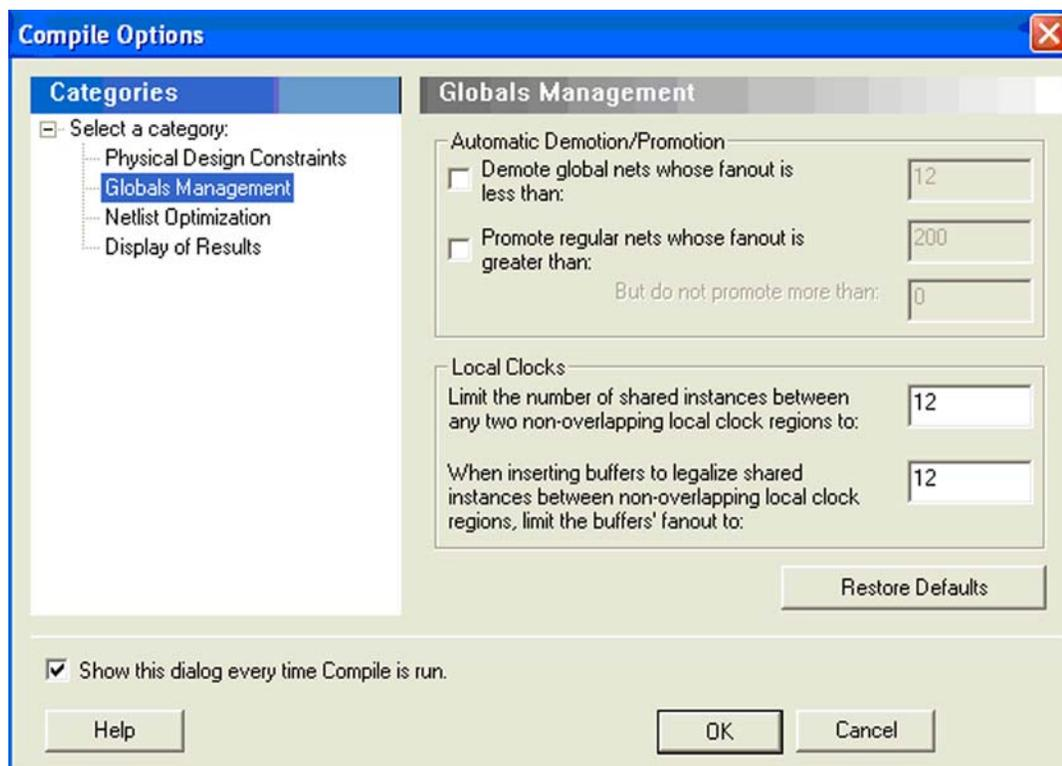

Figure 2-18 • Globals Management GUI in Designer
2. If some signals have a very high fanout and are candidates for global promotion, promote those signals to global using the compile options or PDC commands. Figure 2-18 on page 46 shows the Globals Management section of the compile options. Select **Promote regular nets whose fanout is greater than** and enter a reasonable value for fanouts.